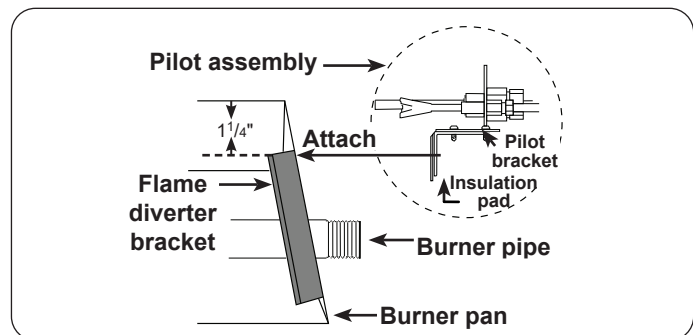

Fig. 4-3 Place flame diverter bracket
2. Turn the brass adapter 180 degrees on the control valve so the opening is to the right and then mirror for left-sided installation as shown in Fig. 4-3.